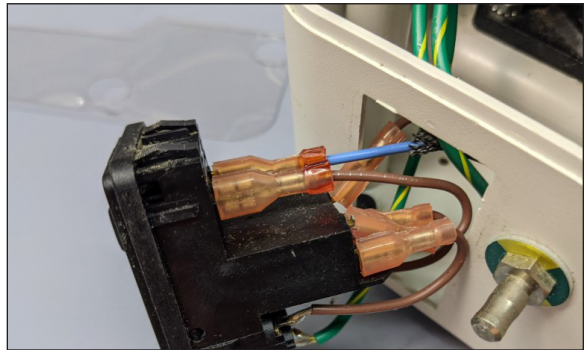

Figure 100 - Step 8 Power inlet removal 2
8. Pull the power inlet out from the bottom enclosure (Figure 100).